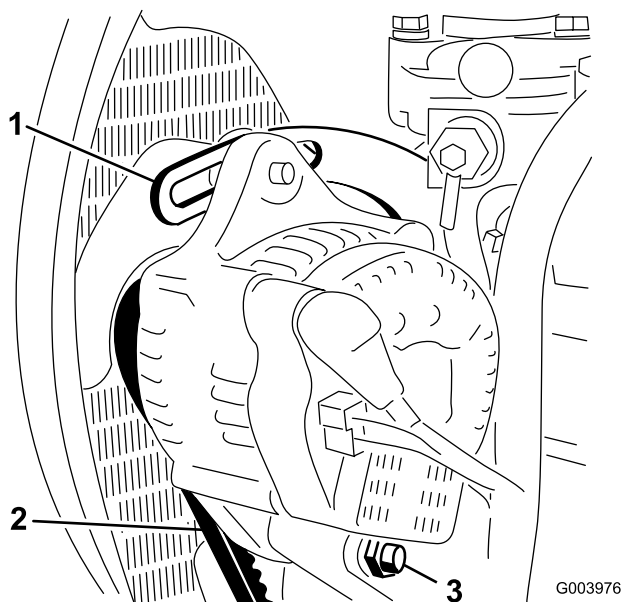

Figure 76
2. Check the tension of the alternator belt by depressing it (Figure 76) midway between the alternator and the crankshaft pulleys with 22 lb (10 kg) of force.
3. Loosen the bolt securing the brace to the engine (Figure 76), the bolt securing the alternator to the brace and the pivot bolt.